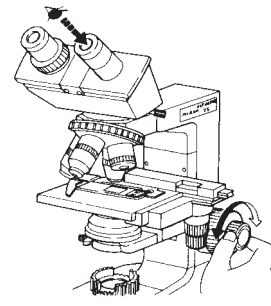

Fig. 4.6
- Focus the image with the right eye by looking into the right eye-piece and turning the focusing knob (Fig. 4.6).